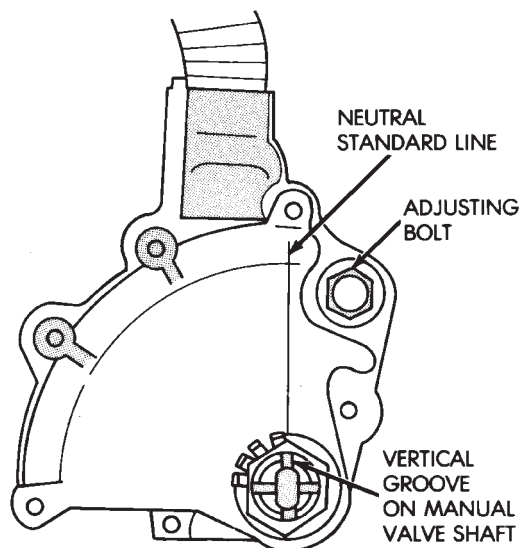

Fig. 68 Park/Neutral Position Switch Installation/ Adjustment
(92) Install transmission shift lever on manual valve shaft. Do not install lever attaching nut at this time.
(93) Move transmission shift lever fully rearward. Then move lever two detent positions forward.
(94) Mount park/neutral position switch on manual valve shaft and tighten switch adjusting bolt just enough to keep switch from moving (Fig. 68).
(95) Install park/neutral position switch tabbed washer and retaining nut (Fig. 68). Tighten nut to 6.9 N•m (61 in. lbs.) torque, but do not bend any of the washer tabs against the nut at this time.
(96) Align park/neutral position switch standard line with groove or flat on manual shaft (Fig. 68).